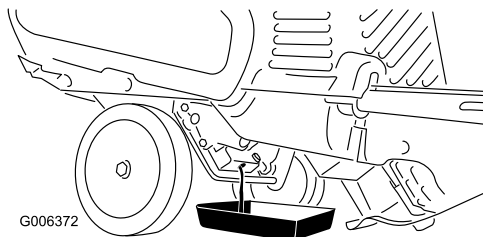

Figure 27
3. Place an oil-drain pan under the oil-drain plug, remove the oil drain plug, and tip the machine backward and drain the used oil in the oil-drain pan (Figure 27).